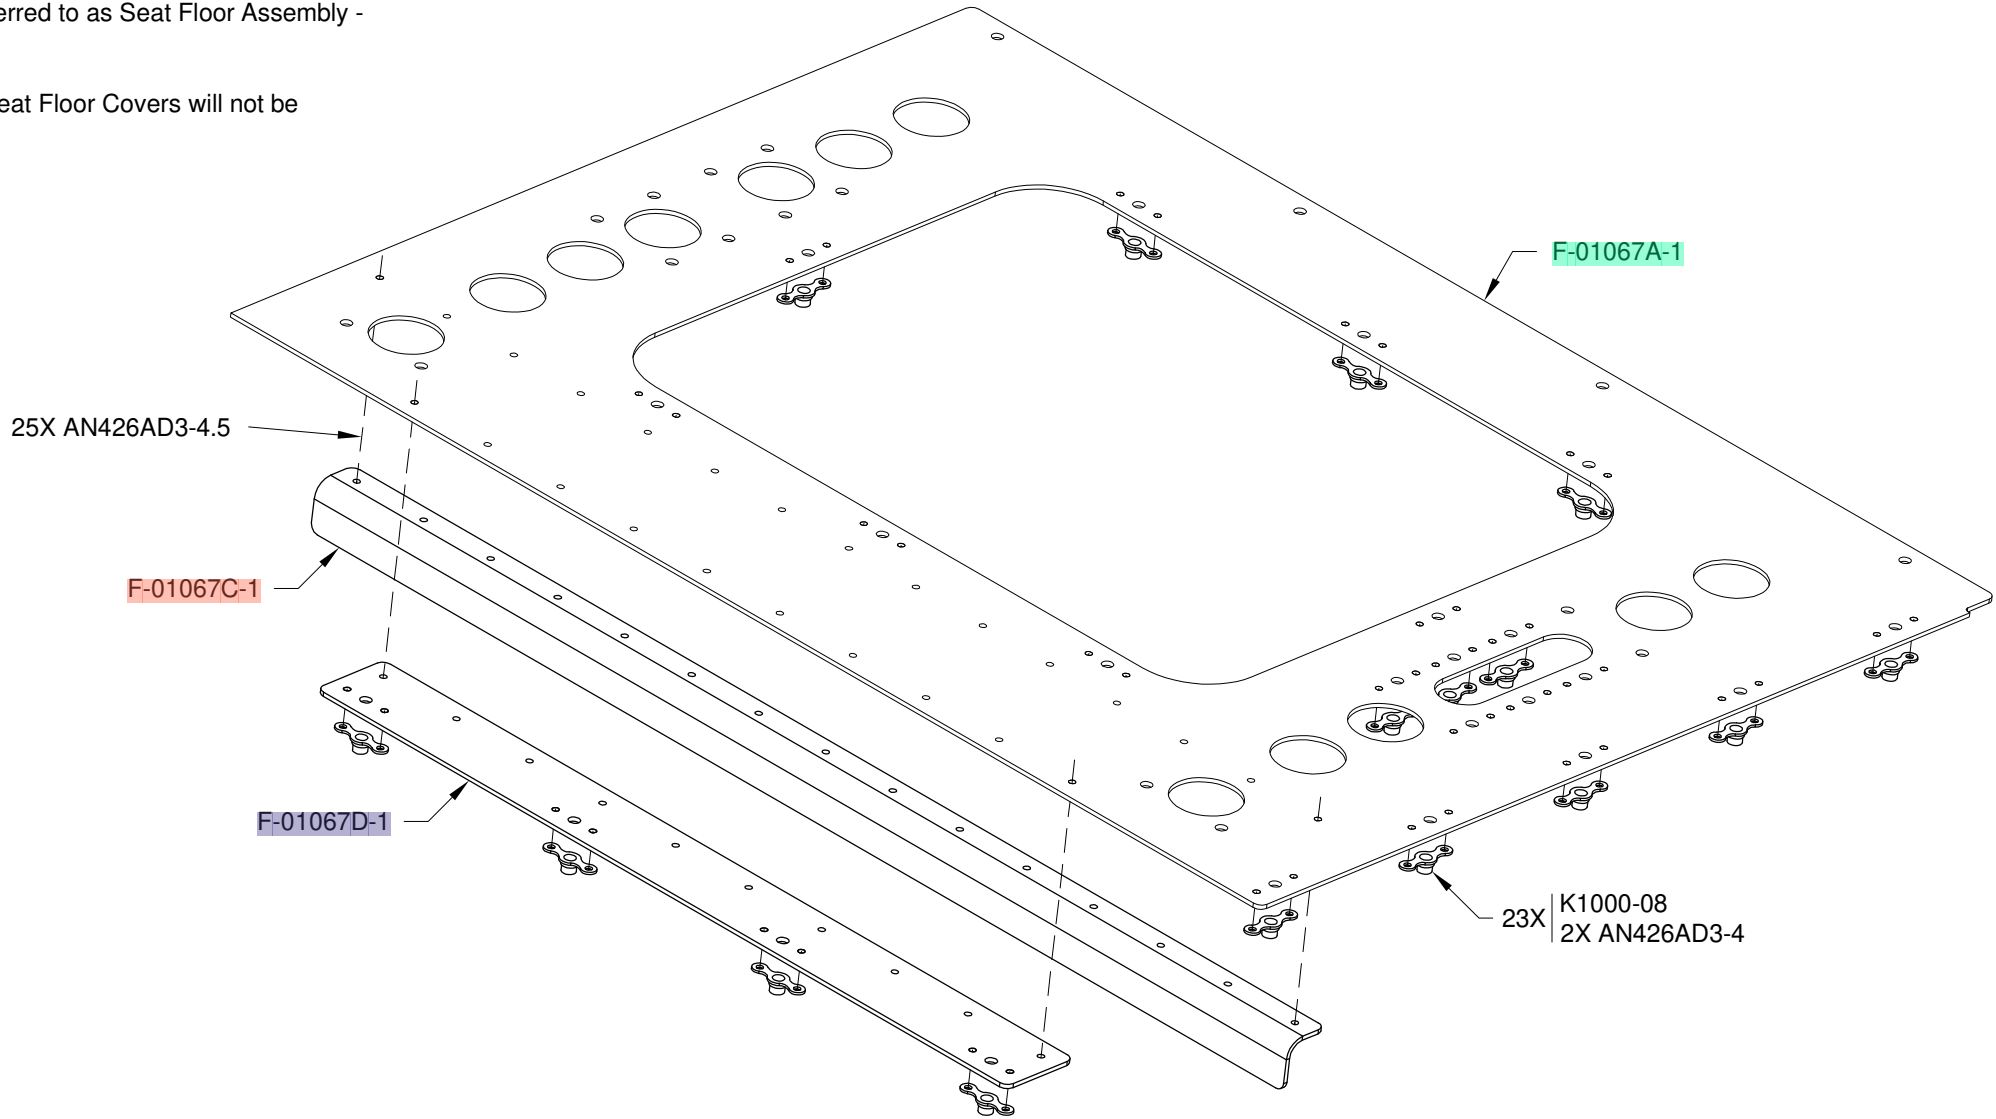

FIGURE 1: SEAT FLOOR ASSEMBLY - LEFT
Step 5: Rivet the **F-01067C-1** Seat Floor Angles and **F-01067D-1** Seat Floor Attach Strips to the **F-01067A-1** Seat Floor as shown in Figure 1.
Rivet nutplates to the seat floors and seat floor attach strips as shown in Figure 1.